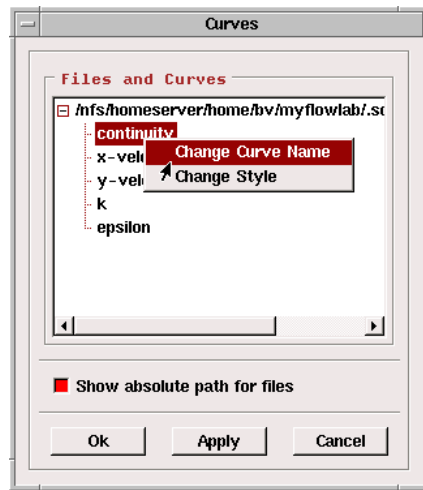

Figure 8.3.5: Curves Panel
This will open the **Curves** panel (Figure 8.3.5).
1. Right-click the curve in the Curves panel (Figure 8.3.5).